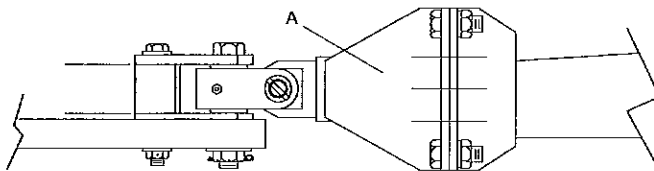

FIGURE 14 - FRONT HITCH ADJUSTMENT
Set the front hitch of harvester (see figure 14) so maximum lift for transport is maintained and still allows lowering into ground as far as necessary. Move the bolt-on hitch (A) to best position.